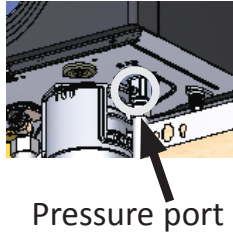

Figure 2
4. Remove the screw from the pressure port which is located on the gas inlet of the water heater. (Figure 2)